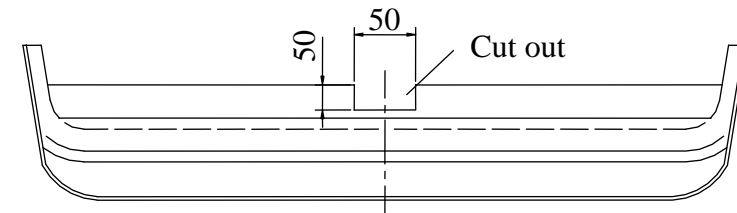

Fig. 2
4. Position the main bar of the towing hitch (pos. 1) to the trunk and fix it with the bracket (pos. 5) through the holes (pos. A) using bolts M10x35mm (pos. 9).
5. Position the sleeves L=58mm (pos. 6) at the bottom of the car, and then fix it through the holes (pos. B) using bolts M10x90mm (pos. 8) and large washers (pos. 10).
6. From the trunk side drill holes  $\varnothing 1$ mm through the towing hitch holes (pos. C) and fix it using bolts M10x35mm (pos. 9) and large washers (pos. 10).
7. Cut the bumper according to fig. 2 and then reassemble it.